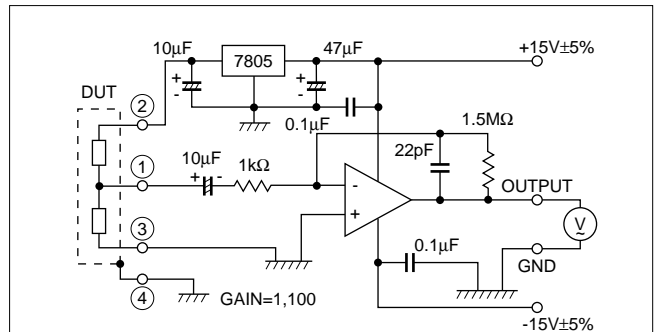

Fig. 1 Amplifier for Output Voltage Measurement
1. Amplifier's gain is set to 1,100 at the frequency of 60 Hz. Fig. 1 shows the detail of amplifier.